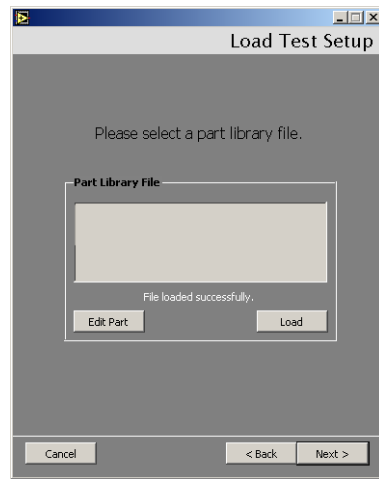

Figure 2-38 Load Test Setup
- ☐ **Existing Part** and click **Next** and Figure 2-38 appears.
4. Navigate to the required directory and select a file and click **Load**. Figure 2-38 reappears with the file name and path populated into the *Part Library File* field.